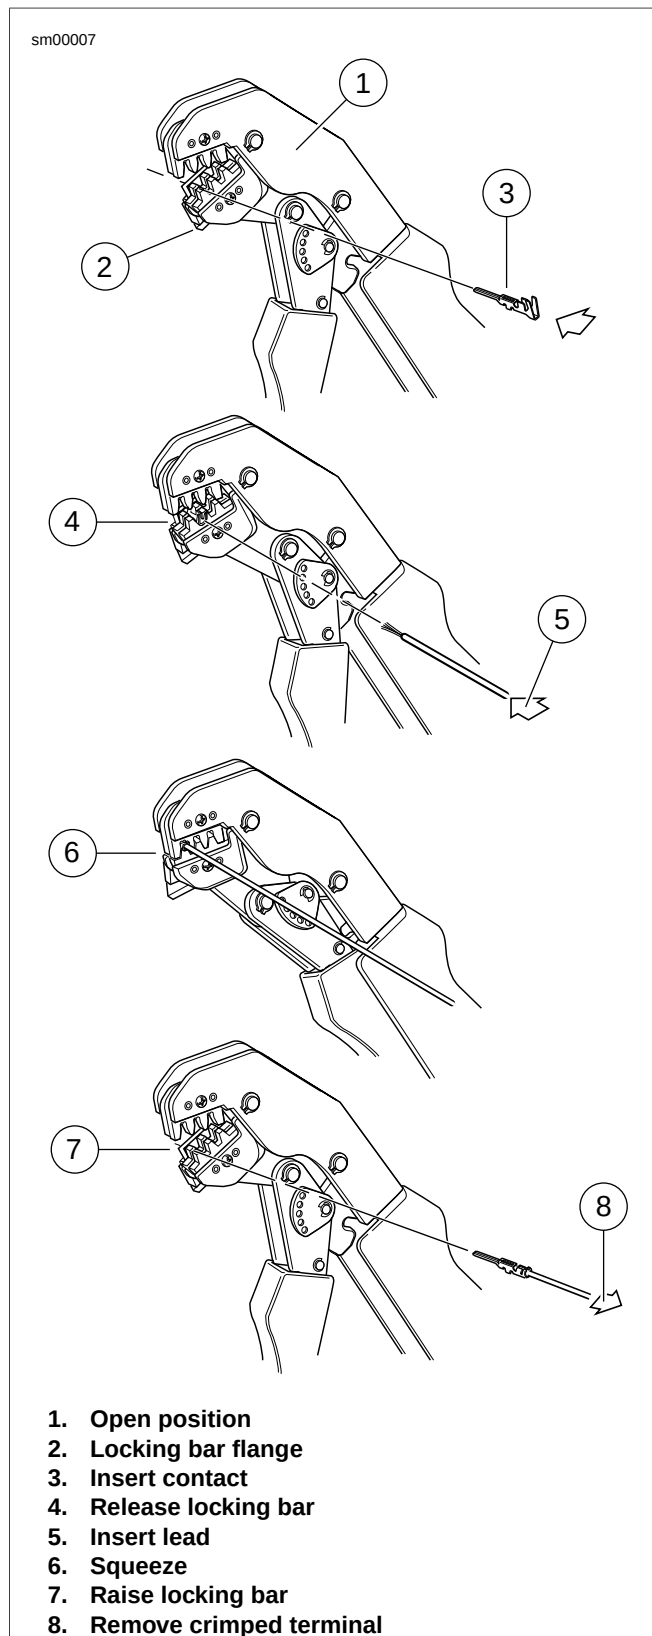

Figure A-6. AMP Multilock Connector: Terminal Crimping Procedure
- 1. See Figure A-6. Squeeze the handles to cycle the AMP MULTILOCK CRIMPER (Part No. HD-41609) to the fully open position (1).
- 2. Raise locking bar by pushing up on bottom flange (2).
- 3. See Figure A-6. With the insulation crimp tail facing upward, insert terminal (pin or socket) (3) through the locking bar, so that the closed side of the terminal rests on the nest of the crimp tool.
- 4. Release locking bar to lock position of contact (4). When correctly positioned, the locking bar fits snugly in the space at the front of the core crimp tails.
- 5. Insert stripped end of lead (5) until ends make contact with locking bar.
- 8. Raise up locking bar (7) and remove crimped terminal.